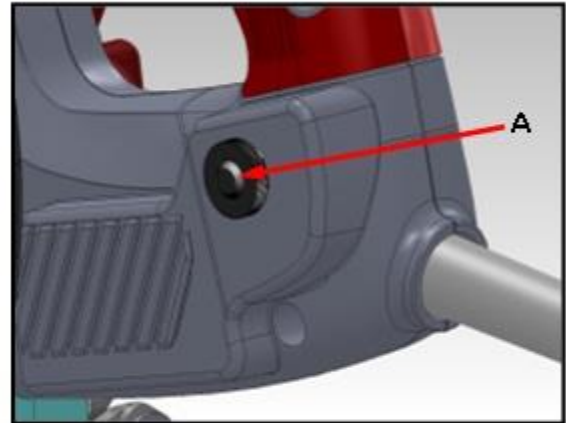

Fig.19
If the saw motor becomes overloaded – by cutting too fast or material that is too thick or hard – the current consumption of the motor may exceed safe levels. The integrated overload protection circuitry will automatically stop the motor to prevent damage to the saw or injury to the operator. The saw is equipped with a reset button (A) that will allow the motor to restart after an overload shutdown and the motor has cooled sufficiently to be restarted (approximately 3 minutes). **FIG 19.**